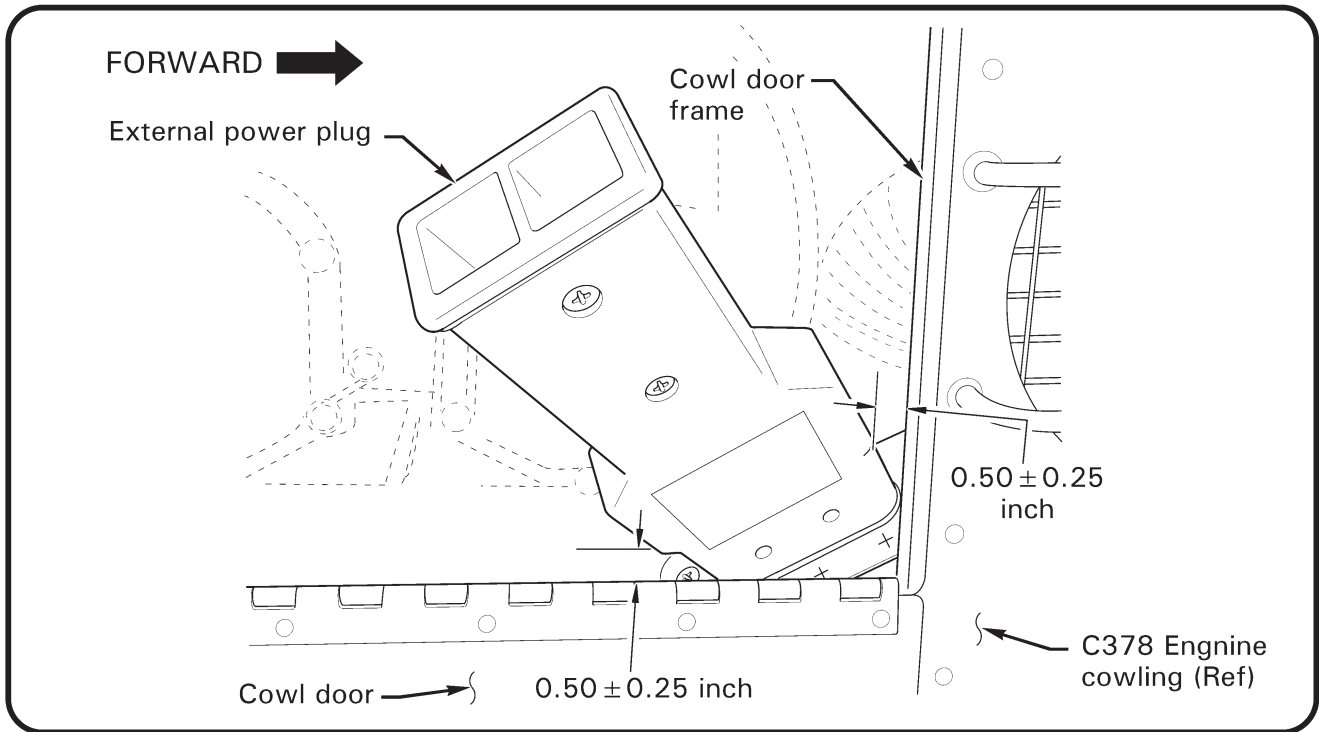

FIGURE 4
10. Refer to Figure 4. Temporarily install C378 engine cowling & (de-energized) external power plug. Position D420 blocks for 0.50 ± 0.25 inch clearance between external power plug and cowl door's bottom and forward edges. Remove cowling. Standard torque NAS6603-16 bolts per MM § 23-32 and torque stripe per MM Figure 2-1.